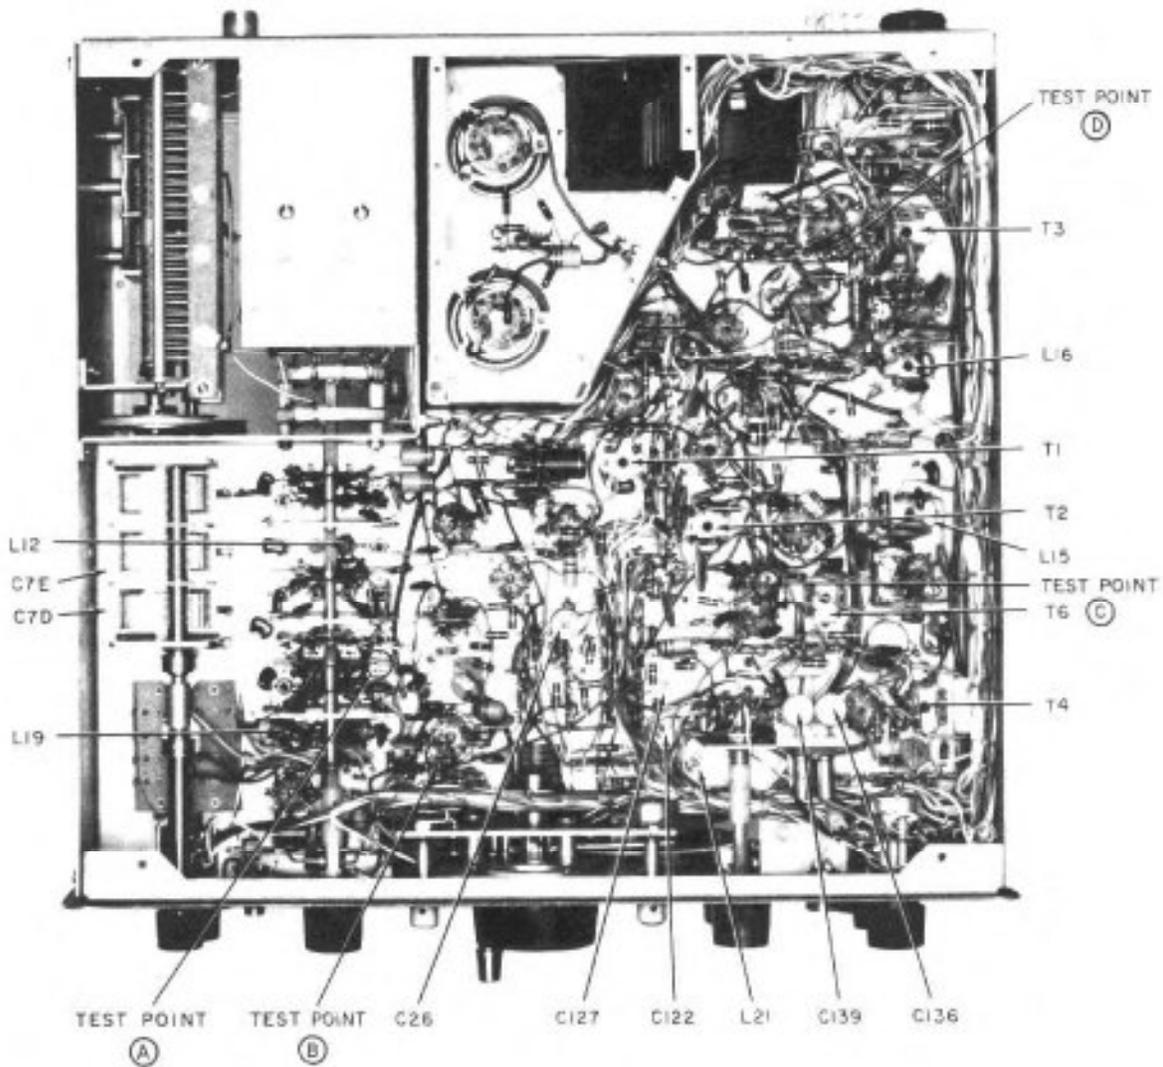

Figure 16. Model SR-2000 Bottom View, Alignment Adjustments.
1. Remove the bottom cabinet cover per paragraph 7-1B to gain access to the adjustment screw of trimmer C122. See figure 16 for location of the trimmer.
The signal source for alignment may be obtained from an RF signal generator (at 1650 KC) or the transceiver can be tuned to the 100 KC crystal calibrator signal in the 20M band. (Any 100 KC marker.) If an RF signal generator is used, connect its output to pin 2 of the second receiver mixer tube (V4A). Test point (C). (See figures 16 and 22.)
A. Remove the heterodyne oscillator tube (V12) and connect the HP410B VTVM RF probe to test point (B) (Pin 2 of the second transmitter mixer tube V11A). See figures 16 and 22.
A. Connect the 50-ohm dummy load and VTVM RF probe to the ANTENNA jack (J1). Connect the RF signal generator termination to test point A. (See figures 16 and 22.) Connect the signal lead to the receiver antenna coaxial cable termination at switch wafer S1D (4th wafer from front) and the ground lead to the first shield plate. Connect the AF voltmeter across the 500 ohm audio output transformer winding at the RCVR AUDIO jack (J3) located at the rear chassis apron. This arrangement will now permit transmitter and receiver operation without connecting and disconnecting test equipment repeatedly during alignment.
E. Set the OPERATION control at REC., RF and AF controls (receiver group) at maximum (10), RIT control at OFF, and NOISE BLANKER at OFF. Do not change the VFO setting and PRESELECTOR control setting set up in step D. Tune the RF signal generator to 28,000 KC and adjust it for approximately 1000 CPS beat note. Use just enough signal generator output (approximately one microvolt for an aligned unit) to keep from developing AVC voltage (no "S" meter indication). Adjust coil L5 for maximum audio output without developing AVC voltage.